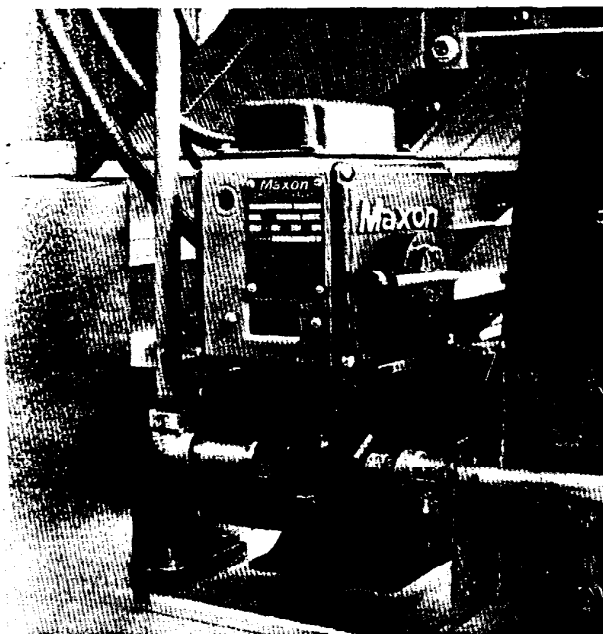

Figure 3
7. Open the main fuel supply valve at the tank. Turn on electric shut off valve to allow fuel flow to the dryer and inspect all gas lines and connections for possible leaks. (Figure 3)